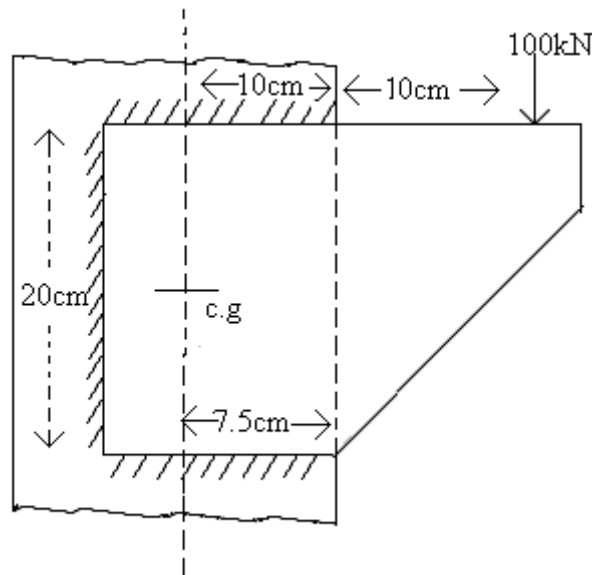

Figure 1
4. Calculate the size of the side fillet welds to be provided for the bracket welded to a stanchion on 3 sides as shown in figure 1. Take the permissible shear stress as 100Mpa. [16]